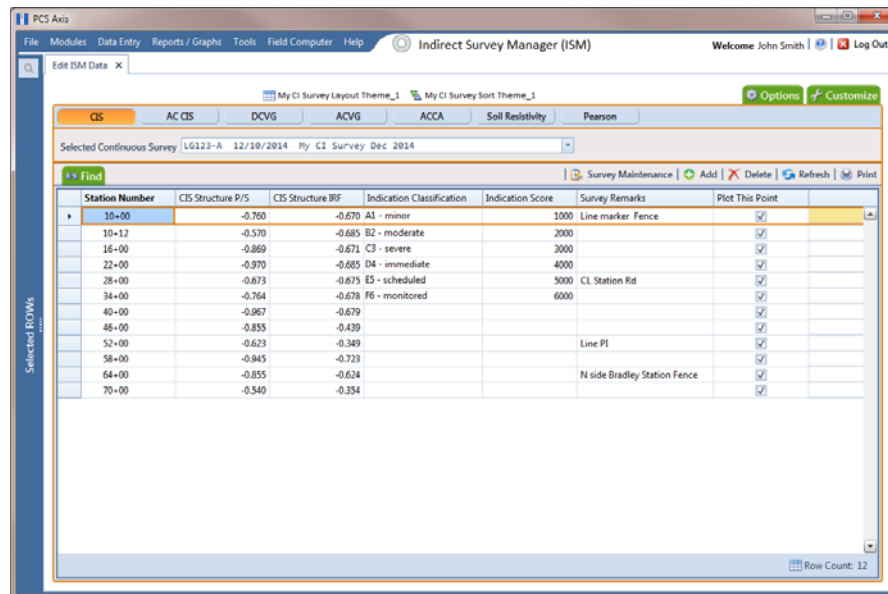

Figure 7-68. Edit ISM Data
- 3 Click **Data Entry > Edit ISM Data** to open the ISM data entry grid. Then click a button labeled with the type of continuous survey data you want to work with, such as the **CIS** button  (Figure 7-68).